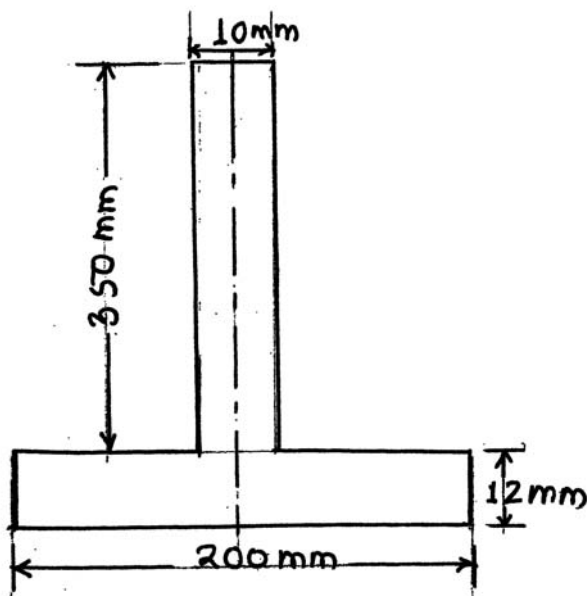

Figure No. 3
b) Calculate Moment of Inertia (I_{xx}) of inverted 'T'- section as shown in fig no. 3.